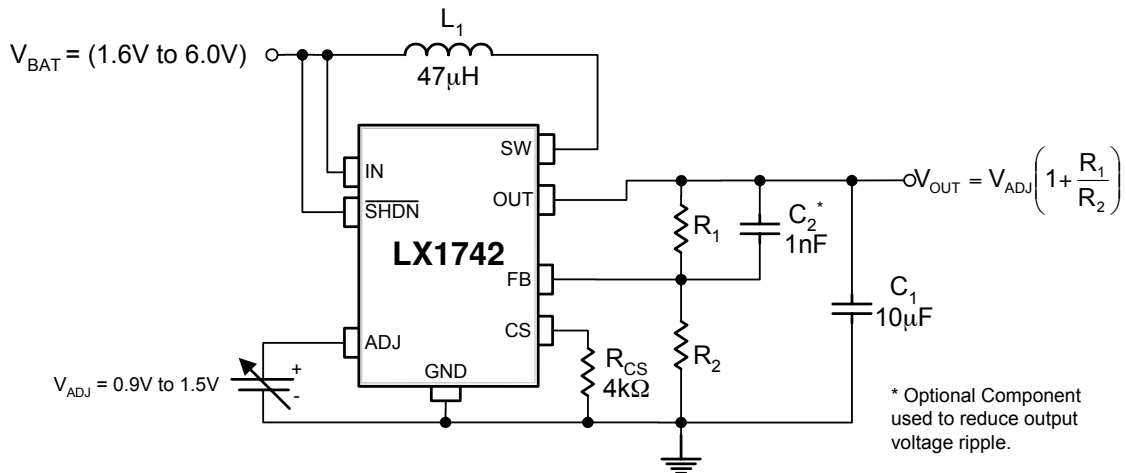

Figure 3 – Circuit Showing Dynamic Output Voltage Operation Via Analog Voltage Input and Using the Internal Diode Switch (Optional).
The LX1742 has a built in diode that may be used instead of an external device. Using this internal diode reduces system cost however, overall efficiency decreases. The electrical connections corresponding to use of the internal diode are shown in Figure 3. In this configuration, the inductor is connected between the input source and the SW pin (1). The output is taken directly from OUT pin (8).